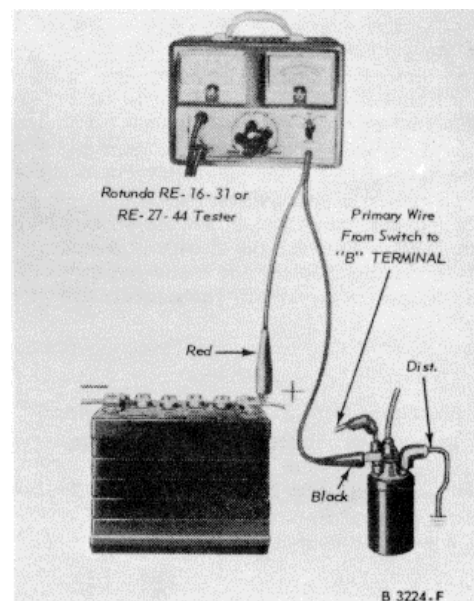

FIG. 5. Coil to Ground Test
- Connect the voltmeter leads as shown in Figure 5.